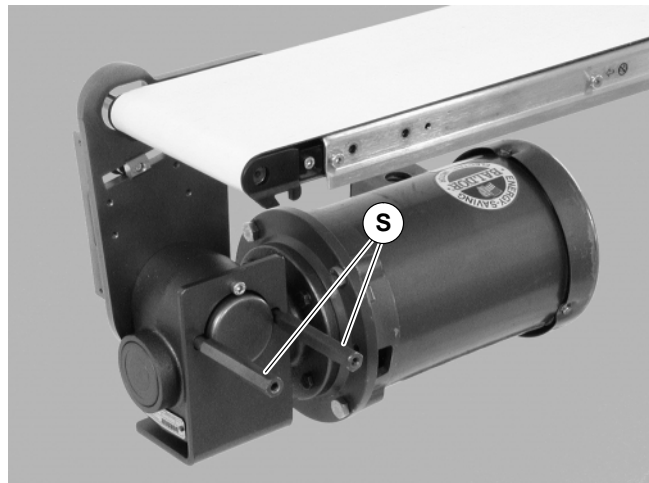

Figure 9
- 6b. Install hex support posts (S of Figure 9). Tighten posts to 80 in-lb (9 Nm).